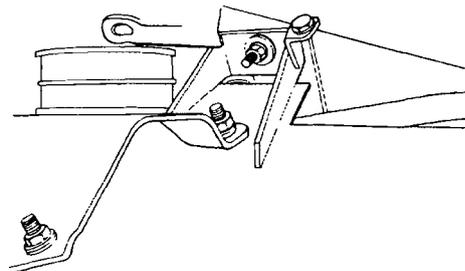

Figure 318 Removing the Front Body Mountings
- hh. Remove the bolts securing the front body mountings to the chassis brackets (Figure 318).
- f.** Install the nuts, washers and bolts retaining the front body mountings (Figure 318) and tighten them securely.